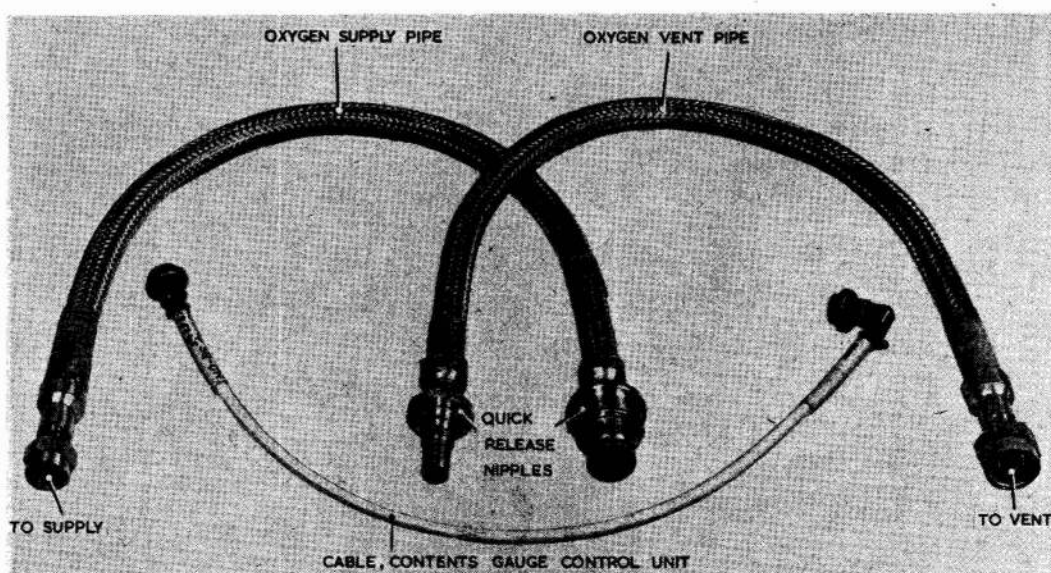

Fig. 3. Flexible pipes and electrical cable
5. This unit is also common to earlier type aircraft liquid oxygen systems but differs in installation details. In this installation it is mounted on the base of the package unit (fig. 1) with the electrical plug and socket connectors and the container calibration controls easily accessible. This complete unit is clamped to the base by means of a clamping plate and four bolts. An electrical cable assembly for this component is shown in fig. 3. For further details of this unit, reference should be made to Sect. 2, Chap. 1.